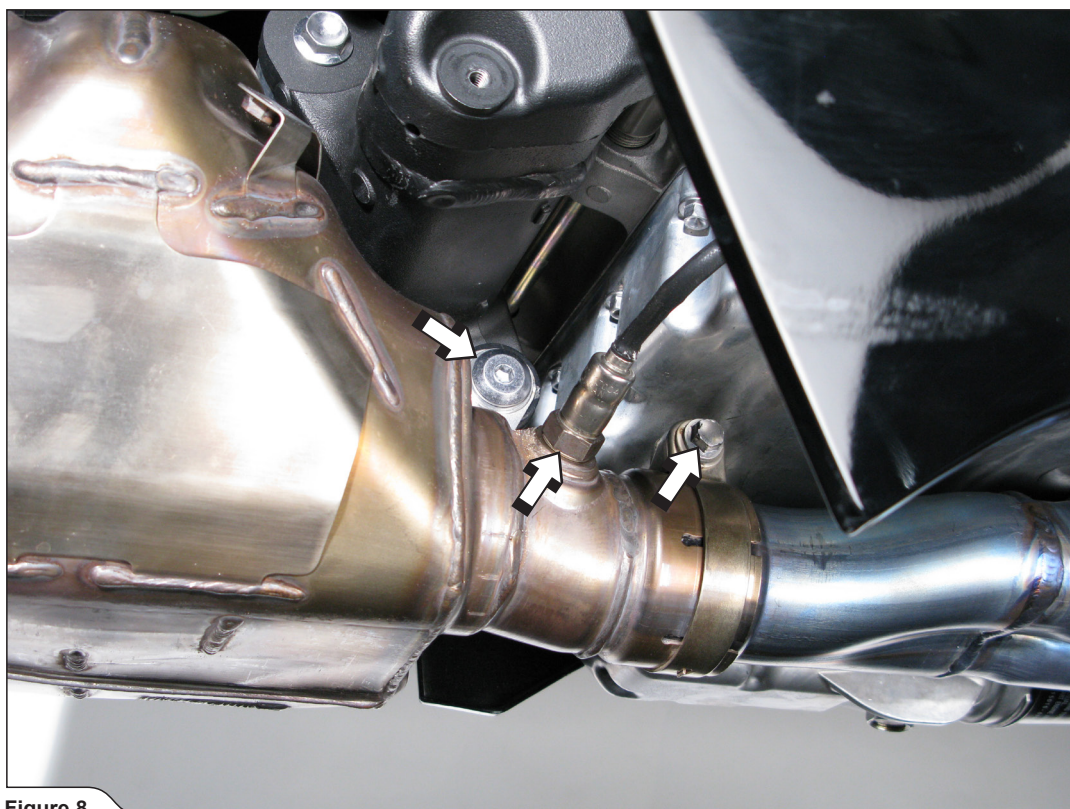

Figure 8
8. **For optional link pipe only:** untighten metal clamp at the collector-headers connection and unscrew the collector hanging bracket and the lambda sensor (**Figure 8**). Remove the collector together with exhaust valve cables off the motorcycle.